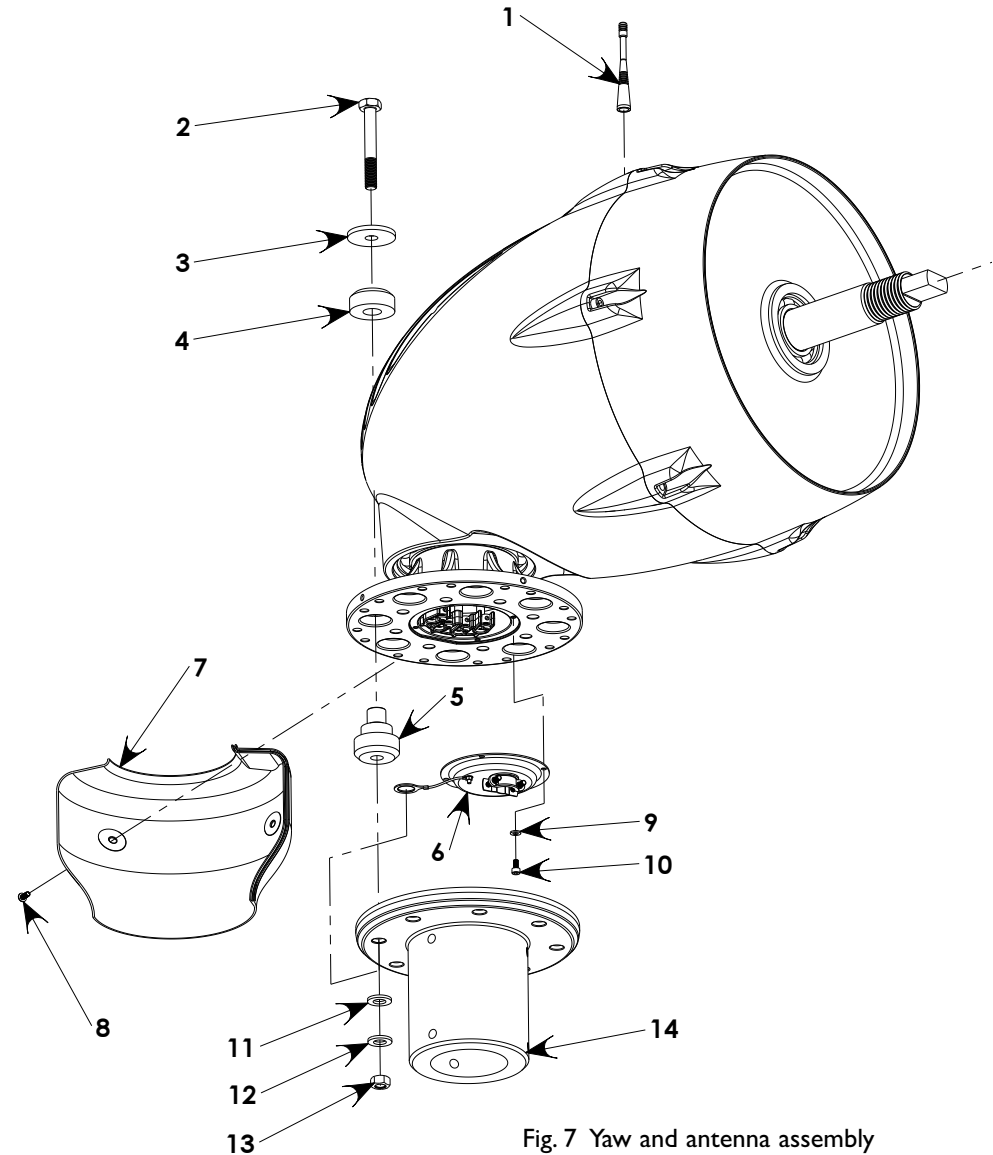

Fig. 7 Yaw and antenna assembly
Refer to Fig. 7 (page 16) for visual aid.
- Install the vibration isolators on yaw flange as shown in Fig. 7 (page 16). Install snubbing washers and bolts in vibration isolators.
- Mount yaw shield halves using four M5 button head screws. See Fig. 7 (page 16). Use Loctite® 242 supplied with Skystream.